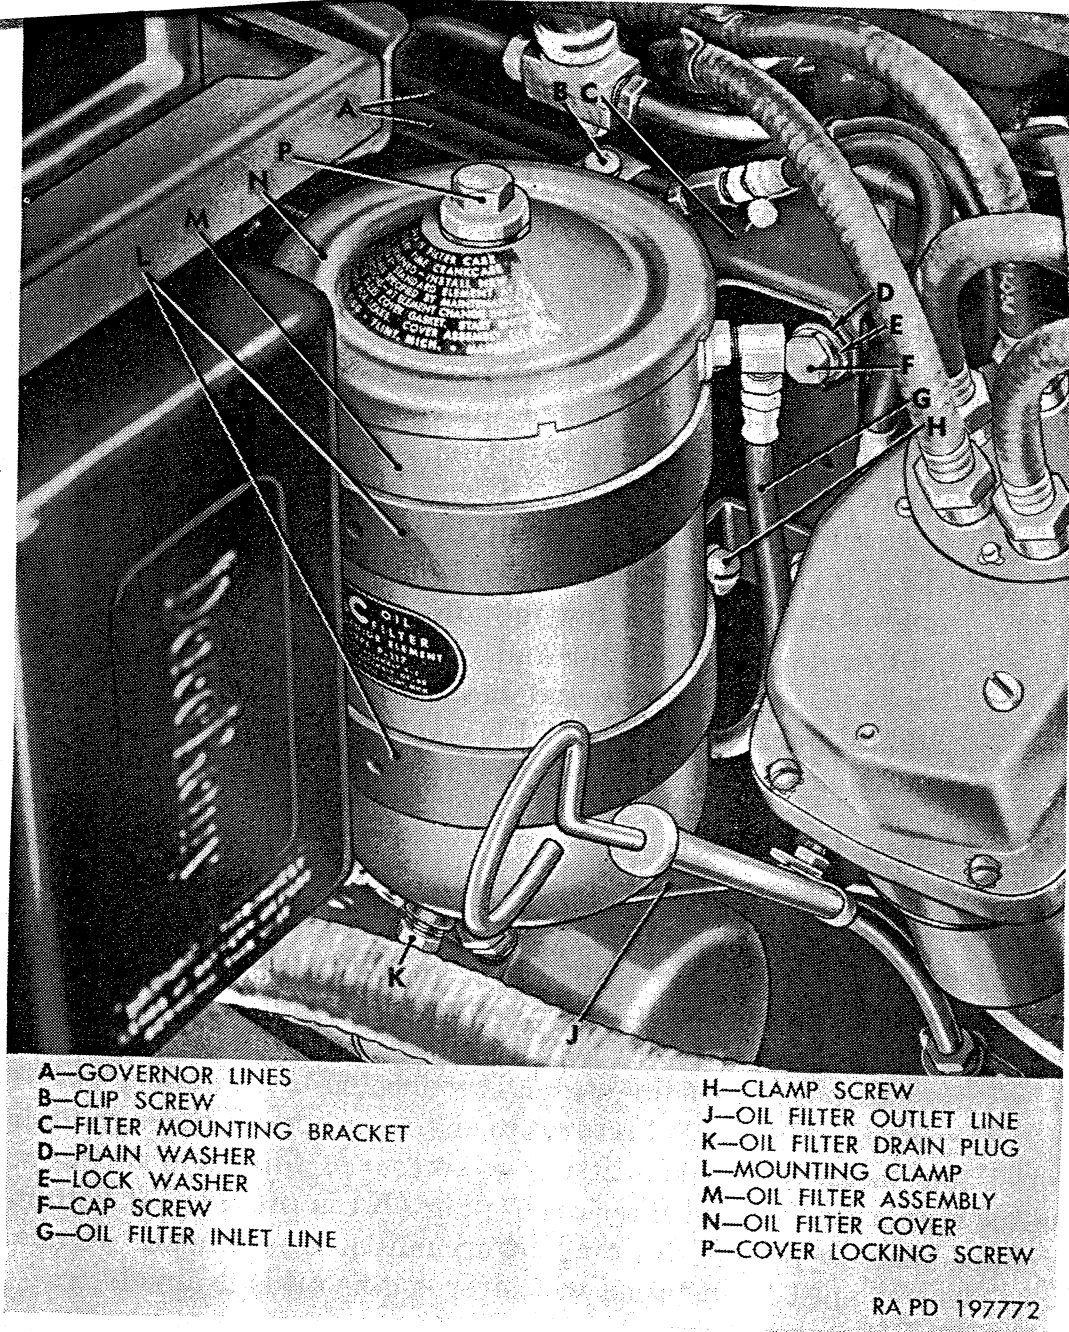

Figure 92. Engine oil filter installed.
*Note.* The key letters noted in parentheses are in figure 92, except where otherwise indicated.
*a. General.* Replaceable-element-type oil filter assembly is mounted on bracket attached to right side of engine. Two band-type clamps attach filter to mounting bracket. A limited amount of engine oil enters filter through inlet line which is connected to oil gallery at left side of engine. Filtered oil returns to engine crankcase through filter outlet line installed between fitting at bottom of filter and fitting at engine crankcase. An oil filter drain plug (K) is provided at bottom of filter shell to permit draining of accumulated sediment. A new filter element must be installed whenever engine oil is drained.